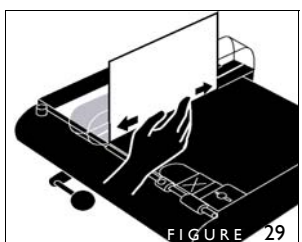

FIGURE 29
3. Fold your cover up to the left so it rests against the side of the Die Holder (figure 29). Run your finger back and forth at the bottom at the spine area of the cover so it makes a sharp fold at the bottom.